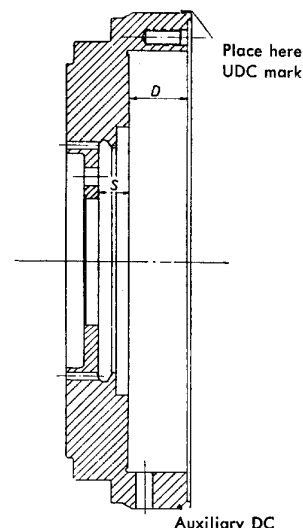

Fig. M 13/3
3. Mounting of flywheel shall be done in reverse order. Position of UDC marking on flywheel is on top, whereby stroke 1 and 4 are also on UDC. The auxiliary DC on flywheel, marked by a ball, is turned by 180° and points vertically to bottom (Fig. M 13/3). With newer models of flywheels (See Fig. Ku 3/01), auxiliary DC is marked by a dash while UDC marking is located on bevelled surface.